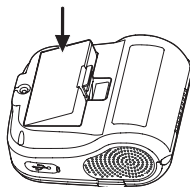
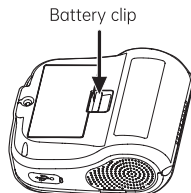

Figure 1
Figure 2
2. As shown in Figure 1 below, insert the battery into the battery slot behind the printer in the direction of the arrow. Press down on the battery until the card snaps into place, as shown in Figure 2.
3. As shown in Figure 2, when removing the battery, open the battery latch, using the opposite steps to install the battery.